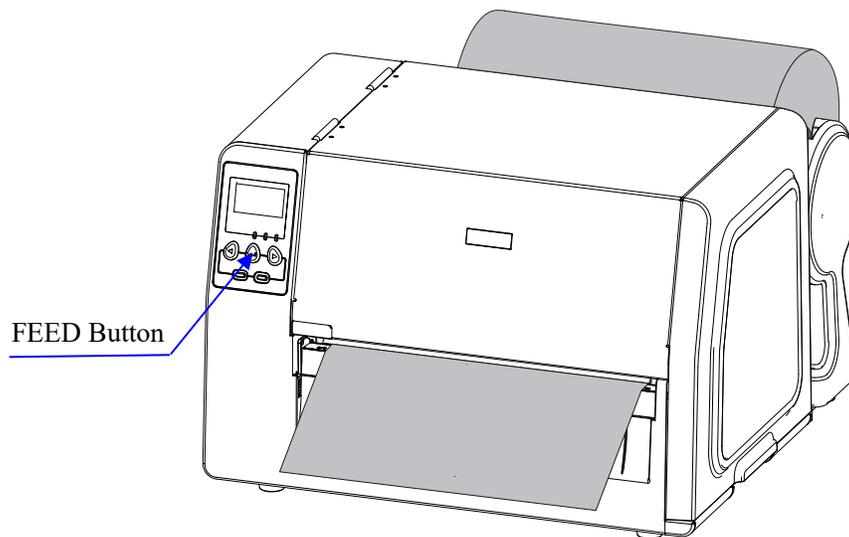

Figure 2-18
9. Close the right cover and turn on the printer, or press the “FEED” button if the printer is already on (see Figure 2-18).